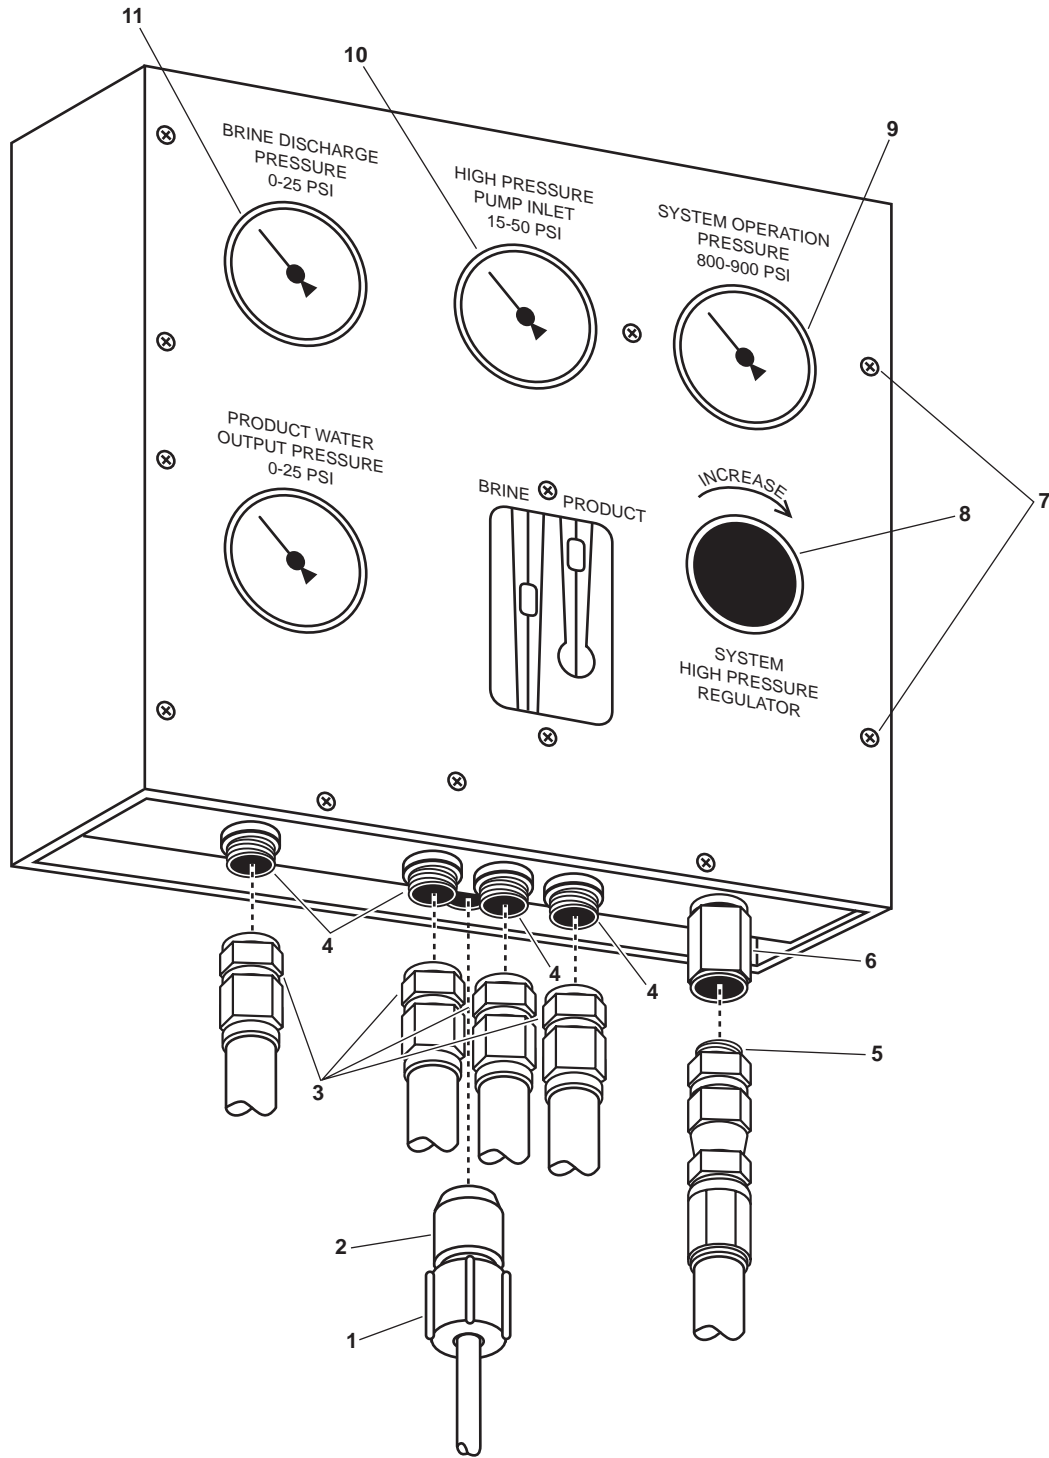

Figure 4. ROWPU Flow Control Panel
9. Unscrew the salinity probe (figure 4, item 1), and remove it from the tee fitting (figure 4, item 2).
1. Place four wraps of antiseizing tape on the male threads of the salinity probe (figure 4, item 1).
2. Install the salinity probe (figure 4, item 1) on the tee fitting (figure 4, item 2). Hand tighten only, using no tools.
5. Disconnect and free the stainless steel piping (figure 4, item 3) from the fittings (figure 4, item 4).
6. Disconnect and free the outlet hose (figure 4, item 5) from its fitting (figure 4, item 6).
7. On the flow control panel, loosen the two captive screws (figure 4, item 7), and open the flow control panel.
6. Close the flow control panel, and tighten the two captive screws (figure 4, item 7).
7. Install the stainless steel piping (figure 4, item 3) and outlet hose (figure 4, item 5) to their respective fittings (figure 4, item 4 and 6).
7. Loosen the two captive screws (figure 4, item 7), and open the applicable flow control panel.
6. Close the indicator panel and tighten the two captive screws (figure 4, item 7).
1. On the applicable ROWPU indicator panel, fully open the SYSTEM HIGH PRESSURE REGULATOR (figure 4, item 8).
3. Slowly increase system operating pressure by CLOSING the SYSTEM HIGH PRESSURE REGULATOR (figure 4, item 8) until the SYSTEM OPERATION PRESSURE gauge (figure 4, item 9) indicates 950 PSI (65.5 bar).
- b. Fully open the SYSTEM HIGH PRESSURE REGULATOR (figure 4, item 8).